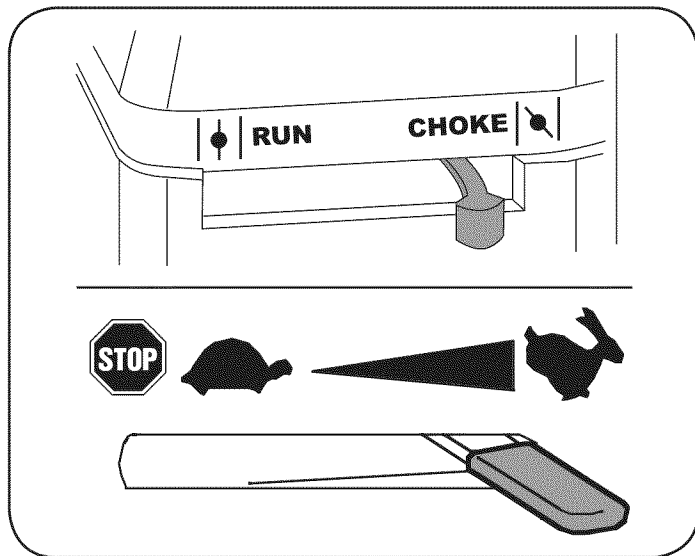

Figure 8
7. Move the choke lever on the engine to CHOKED position. (A warm engine may not require choking.) See Figure 8.
8. Move throttle control to START/RUN (Rabbit) position. See Figure 8.